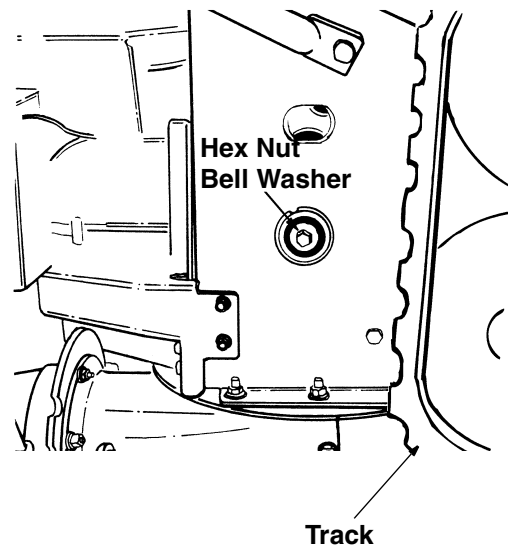

Figure 26
11. Slide the shaft into the hex I.D. of the sprocket, the spacer, and the left ball bearing, and secure with the bell washer and hex bolt. See Figure 26.